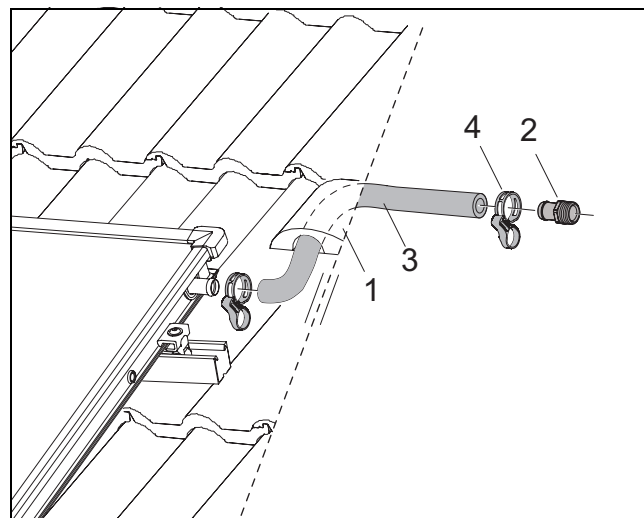

Fig. 50 Assemble the flow pipework (without purging device on the rooftop)
- Connect the long solar hose (1,000 mm, Fig. 50, [3]) to the collector array flow connection and secure with hose clip (Fig. 50, [4]).
- Fit the end of the hose into the solar hose with the compression fitting (Fig. 50, [2]) as far as it can go and secure with hose clip.
- Connect the collector pipe to the end of hose R $\frac{3}{4}$ with threaded locking ring (18 mm) (Fig. 50, [2]). Follow the same procedure for the return connection.